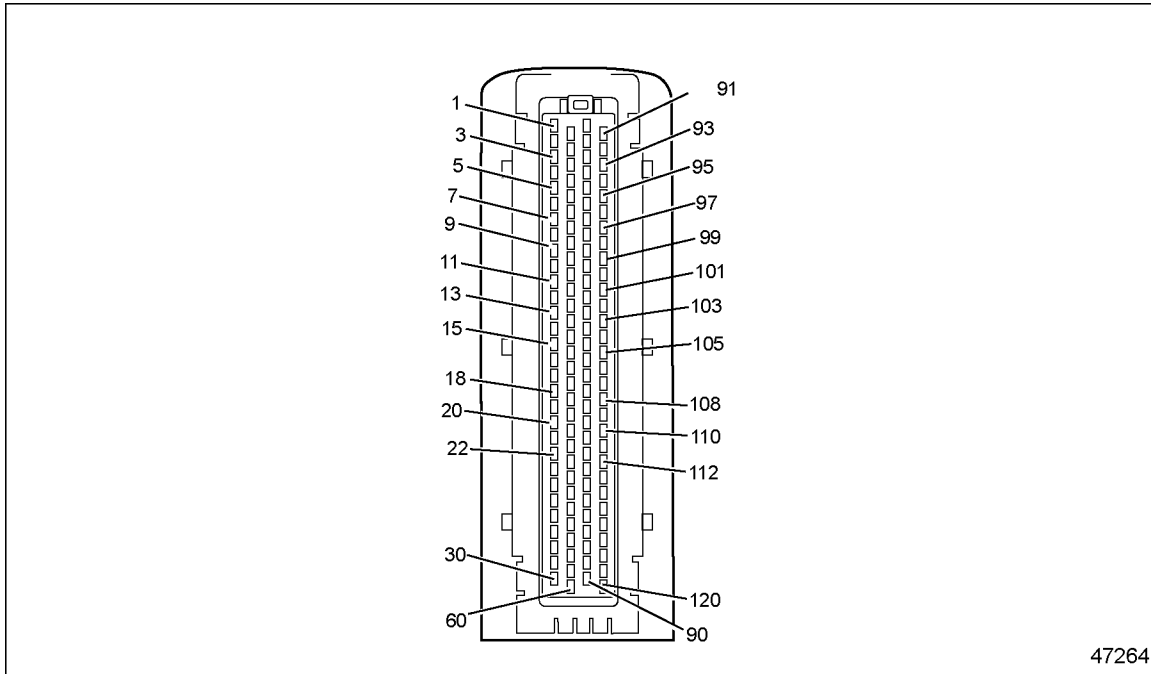

Figure 26-1 120-pin MCM Connector
- [a] If the voltage is less than 11.5 volts, repair the open between pin K of the 23-pin connector and pin 16 of the MCM 120-pin connector (see Figure 26-1). Refer to section 26.1.3.1.